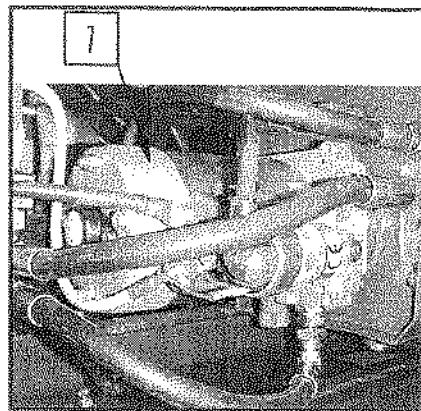
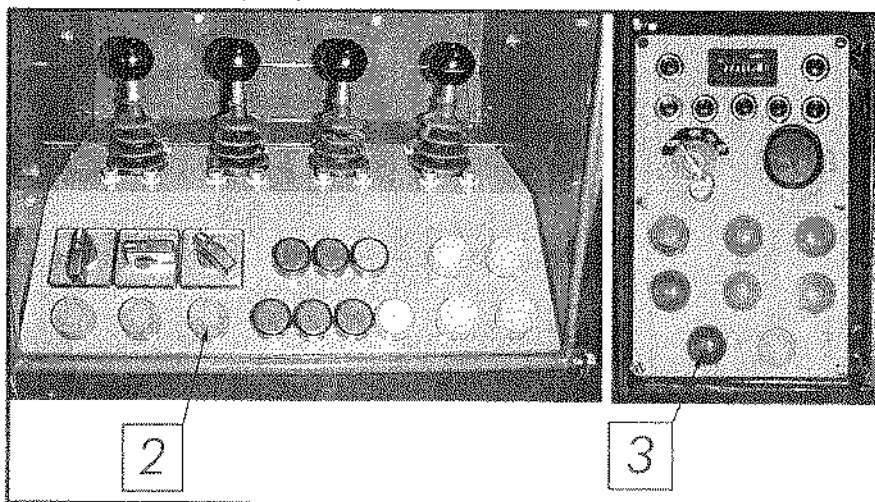

Figure 7-2. Emergency lowering pump
Figure 7-3. Emergency lowering push-buttons
- The emergency lowering system consists of the pump for emergency lowering 1 (figure 7-2), control switches 2 and 3 of the emergency lowering pump (figure 7-3), and decals with instructions on operating the system.